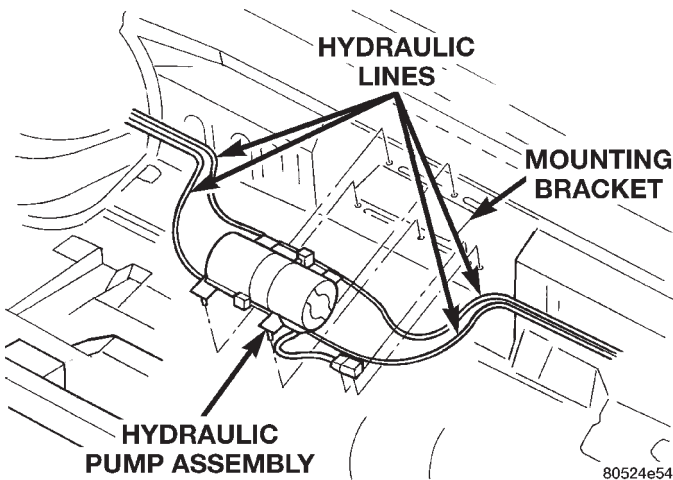

Fig. 5 Hydraulic Pump Assembly
- (1) Disconnect battery negative cable.
- (2) Remove rear seat cushion and rear seat back.
- (3) Disconnect pump wire connector and ground connection (Fig. 5).
- (4) Disconnect hydraulic lines from pump.
- (5) Remove motor pump assembly from vehicle. The rubber mounts are pressed and locked into the mounting bracket. Pull up on motor assembly to remove.